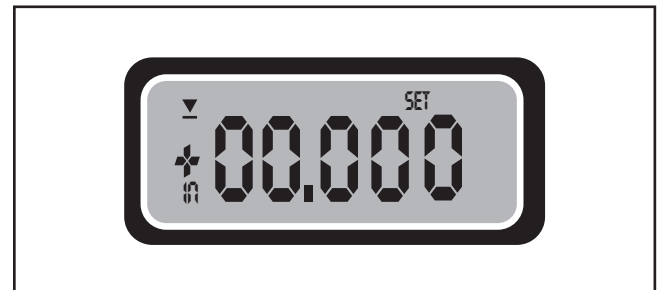

Figure 24. Setting lower limit.
6. Hold the TOL button down and move the cursor until SET flashes, then press TOL again. SET flashes and ∇ is displayed, indicating the lower limit mode, as shown in **Figure 24**.